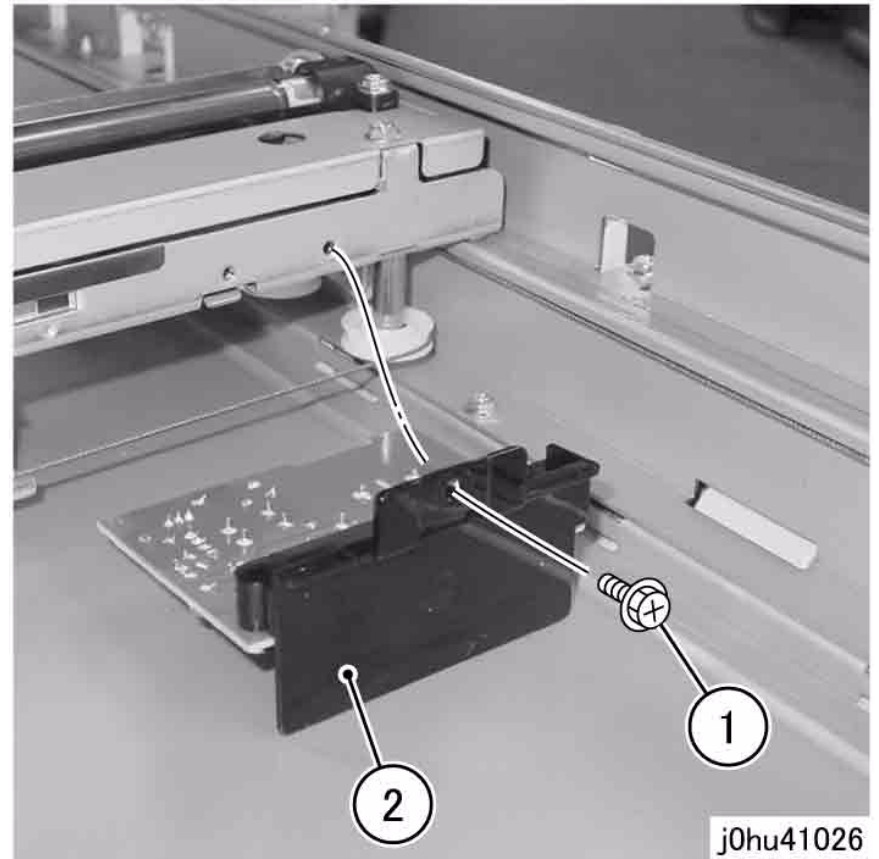

Figure 3 Remove Inverter PWB Bracket 1
5. Move Carriage fully to the right to expose Inverter PWB Bracket 1 (Figure 3).